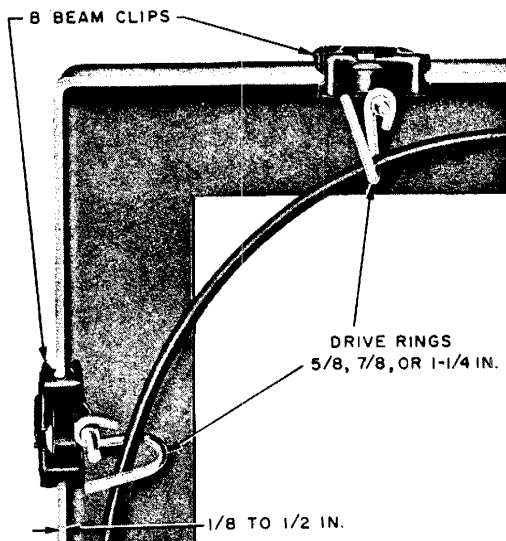

Fig. 8 - B Beam Clips
- (a) The B beam clip (Fig. 8) equipped with either a drive ring or the B or M bridle ring is used to support wire runs on I beams, angle irons, etc, on beam thickness of $\frac{1}{8}$ inch to $\frac{1}{2}$ inch.